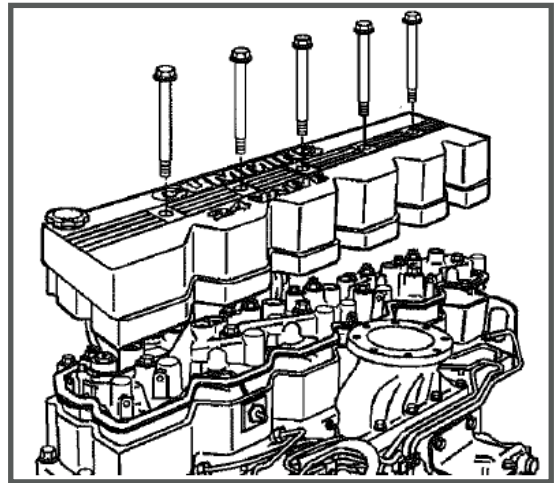

FIGURE 8
1. Reinstall the rocker arm cover and gasket. See Engine Manual for procedure and torque settings. See Figure 8.